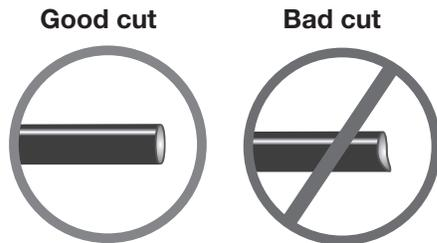

fig. 9
1. Cut the air line in half. Make clean, square cuts with a razor blade or hose cutter (Fig. 9). Do not use scissors or wire cutters.
- a. Check the air line connection by deflating the spring and removing the line by pulling the collar against the fitting and pulling firmly on the air line. Trim 1" (25mm) off the end of the air line. Be sure the cut is clean and square (see Fig. 9). Reinsert the air line into the push-to-connect fitting.